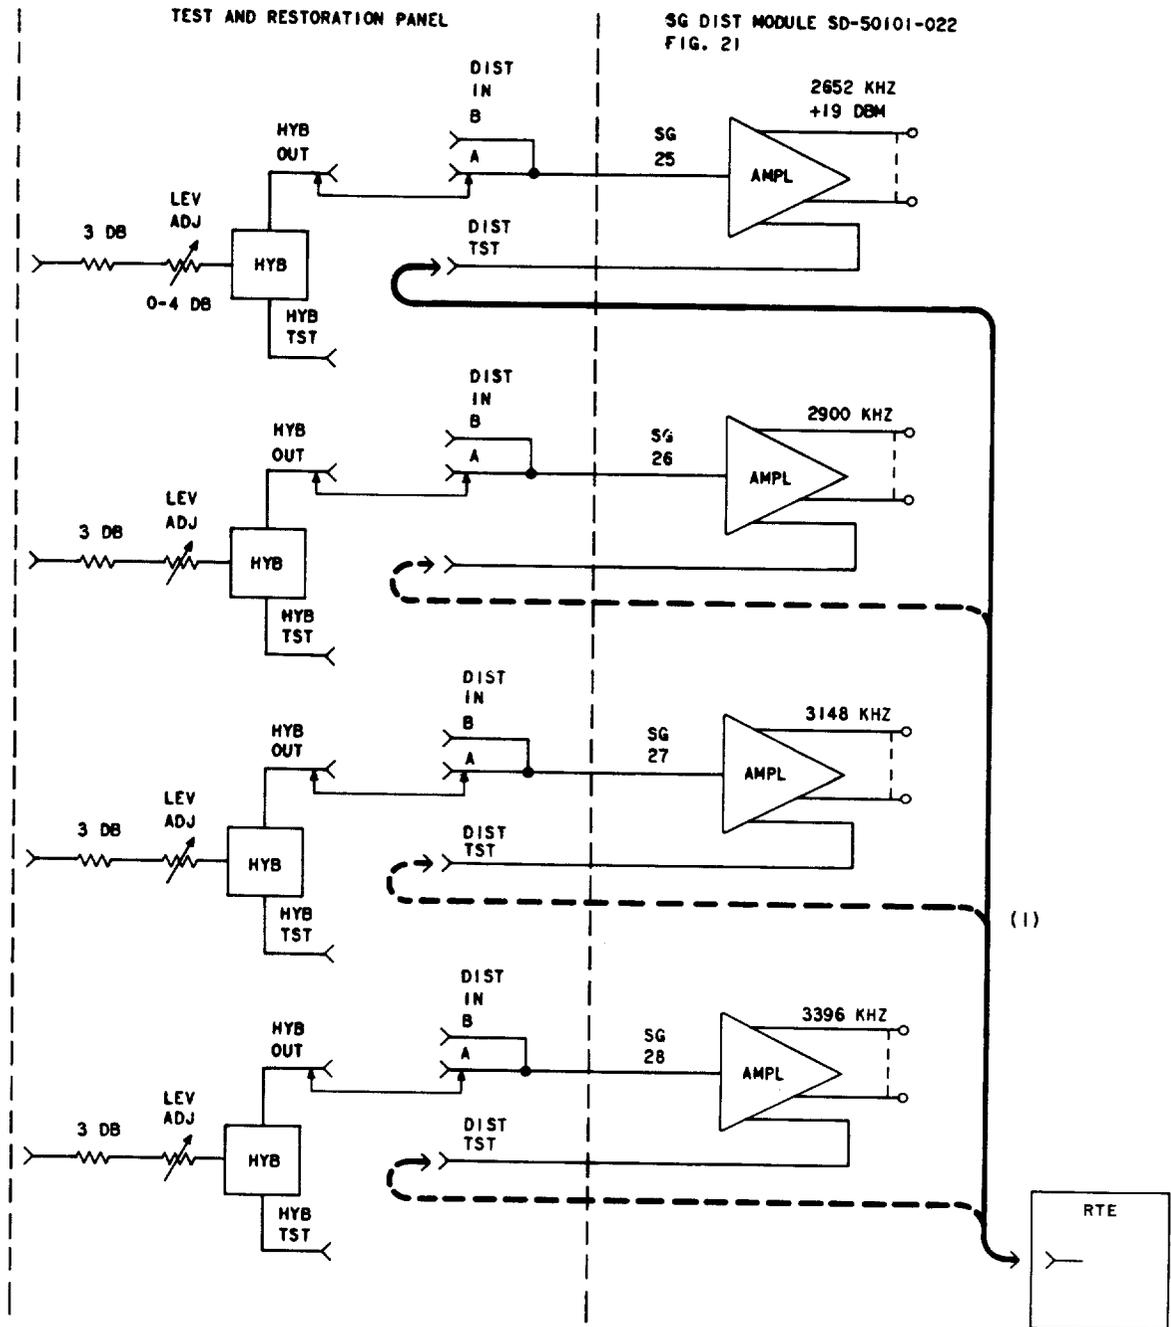

Fig. 5—Distribution Module Output—Test Connection
3	At the test and restoration panel, connect the RTE to the DIST TST jack of the supergroup to be tested [patch (1), Fig. 5].
(a) Disconnect the RTE from the DIST TST jack [patch (1), Fig. 5].
(b) Connect the RTE to the DIST TST jack [patch (1), Fig. 5].
13	At the test and restoration panel, disconnect the RTE from the DIST TST jack [patch (1), Fig. 5].